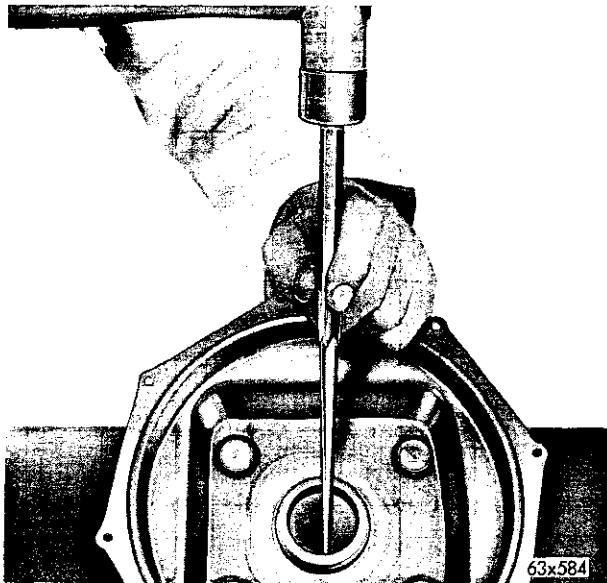

Fig. 22—Removing Rear Seal
(13) Support the rear shell on two wooden blocks and drive out the rear seal (Fig. 22).